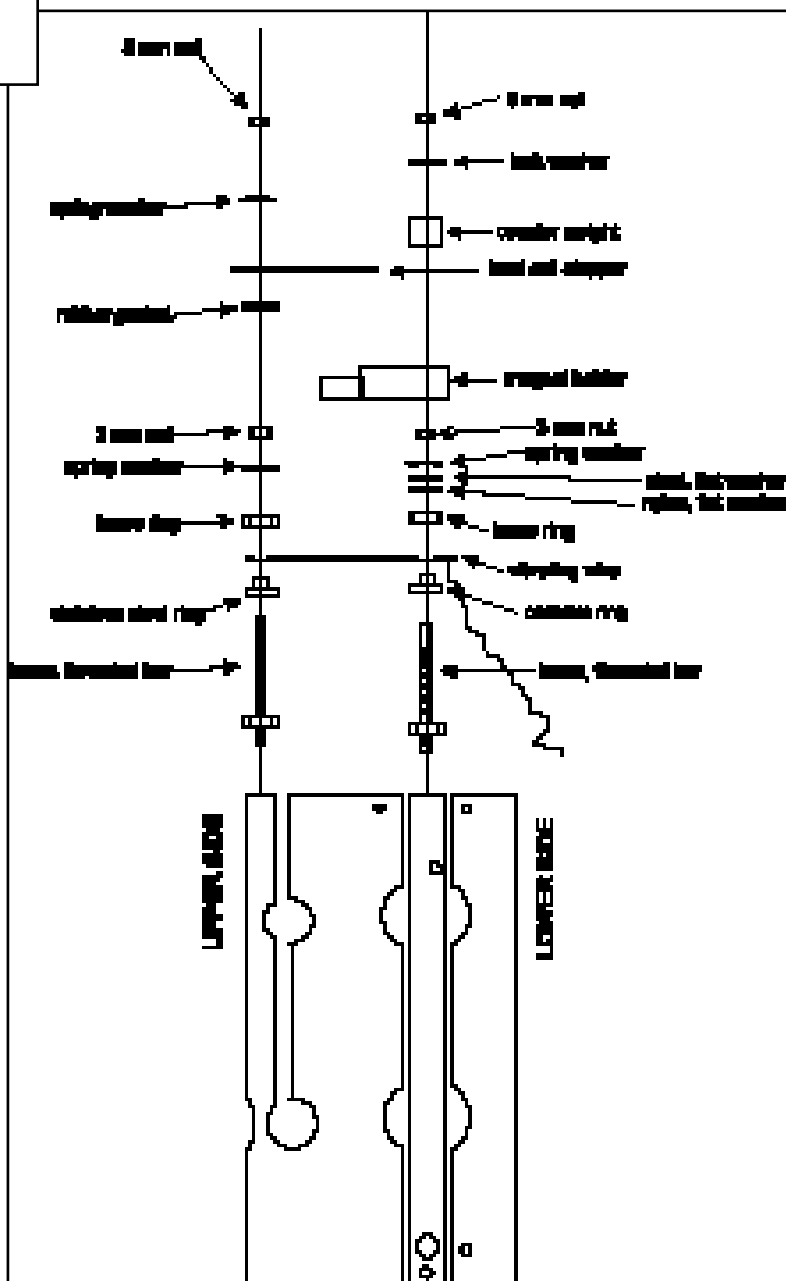

Figure 3: Vibrating Wire Assembly
If the vibrating wire needs to be removed, follow the next procedure. Please also refer to **Figure 3**.
To install the vibrating wire, follow the next procedure. Please also refer to **Figure 3** and **Figure 4**.
- a) Desolder the (2) blue wires from the old vibrating wire.
- b) Cut the vibrating wire, as shown in **Figure 3**.
- c) Solder the (2) blue wires to the new vibrating wire.